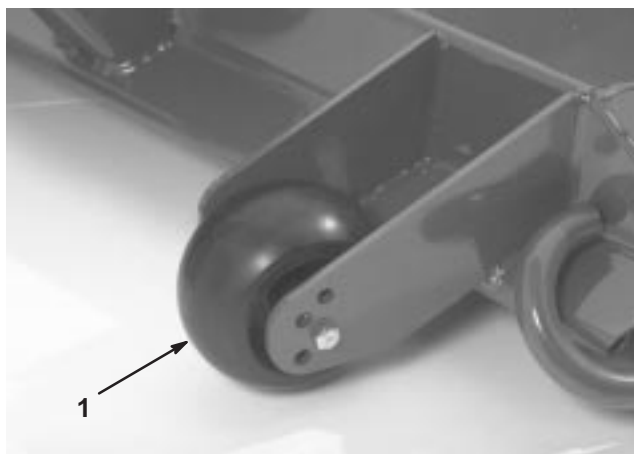

Figure 15
1. Remove the capscrew and nut securing the gage wheel to the cutting unit brackets (Fig. 15).